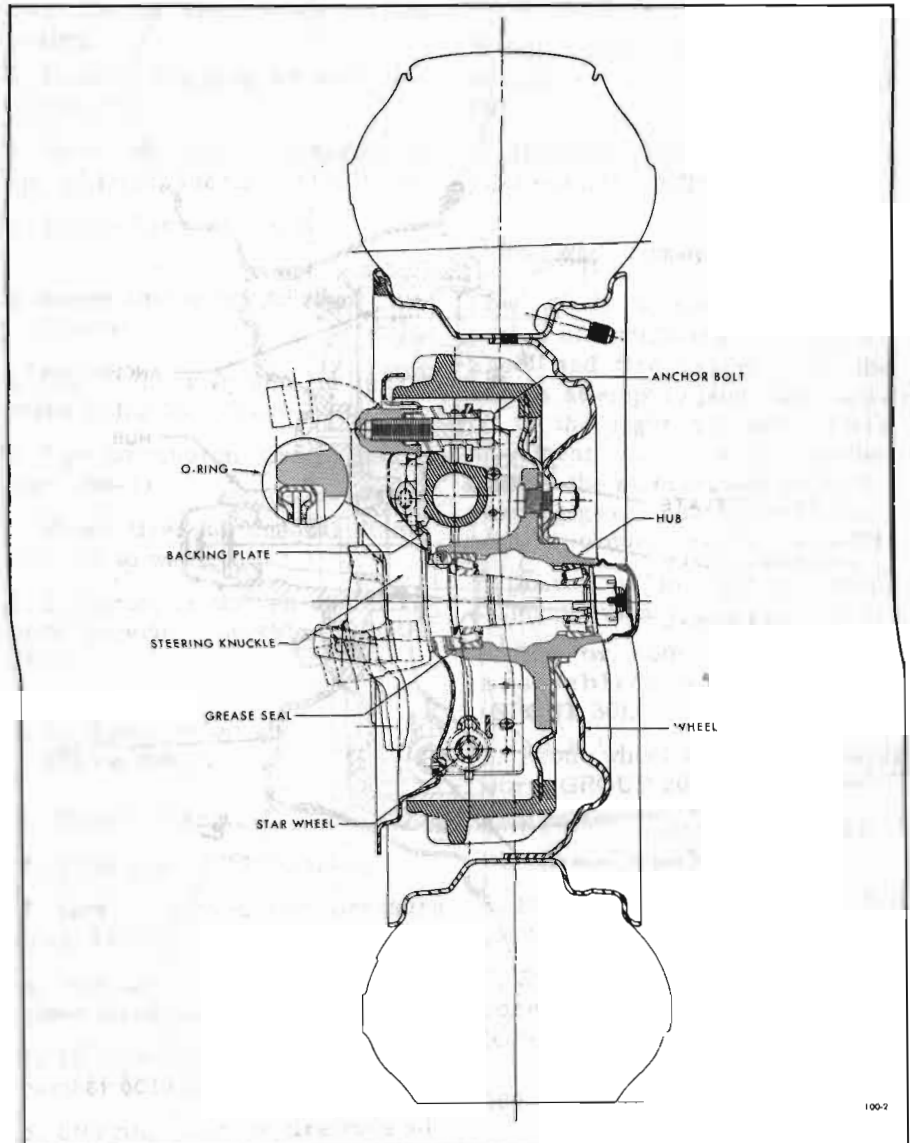

Figure 100-2—Front Wheel Hub Bearings - 43-44000 Series
2. Remove outer race and outer bearing assembly from hub. Remove oil seal from hub so that inner race and bearing assembly can be removed from hub. See Figure 100-2, and 100-3.